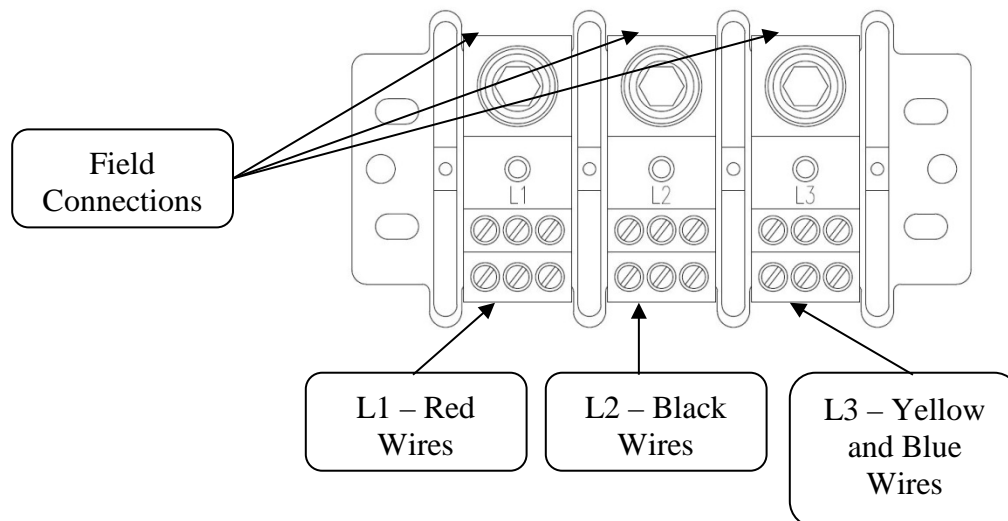

Figure 11. Three Phase Terminal Block Connections
3. Connect both blue and yellow wires to L-3 of the terminal block. Figure 11 shows the new three phase wire configuration.